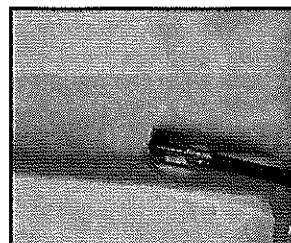

Fig. 24
7. Slide the housing into place (Fig. 24), and complete the assembly as normal.